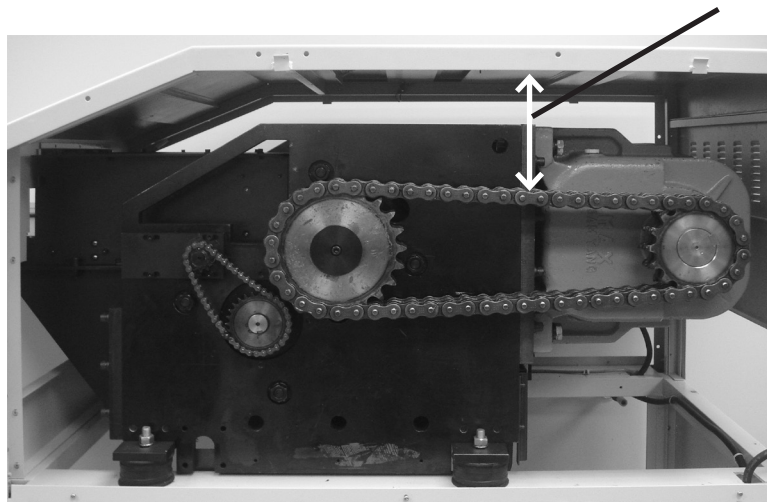

Fig. 2
3. The sagging of the chain (see Fig. 2) should be 9 - 14 mm, measured from the top inside of the frame to the cutting head chain.